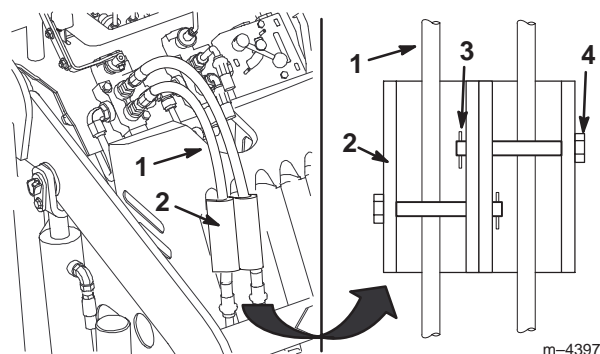

Figure 14
7. Install the cylinder locks over the hydraulic hoses and secure them with the clevis pins and cotter pins (Fig. 14).